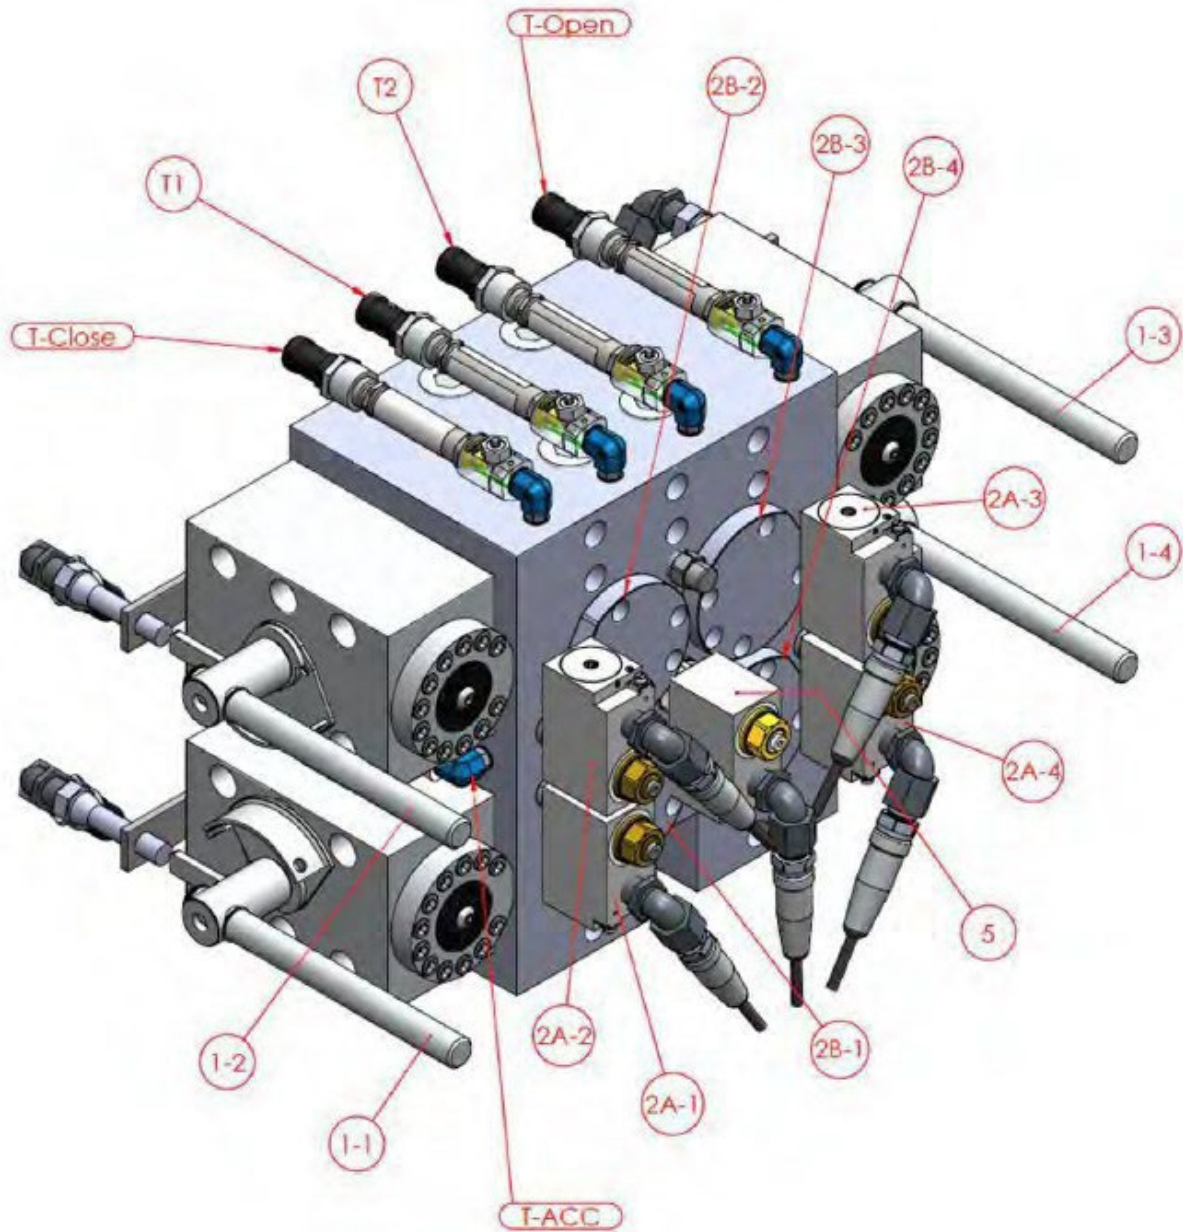
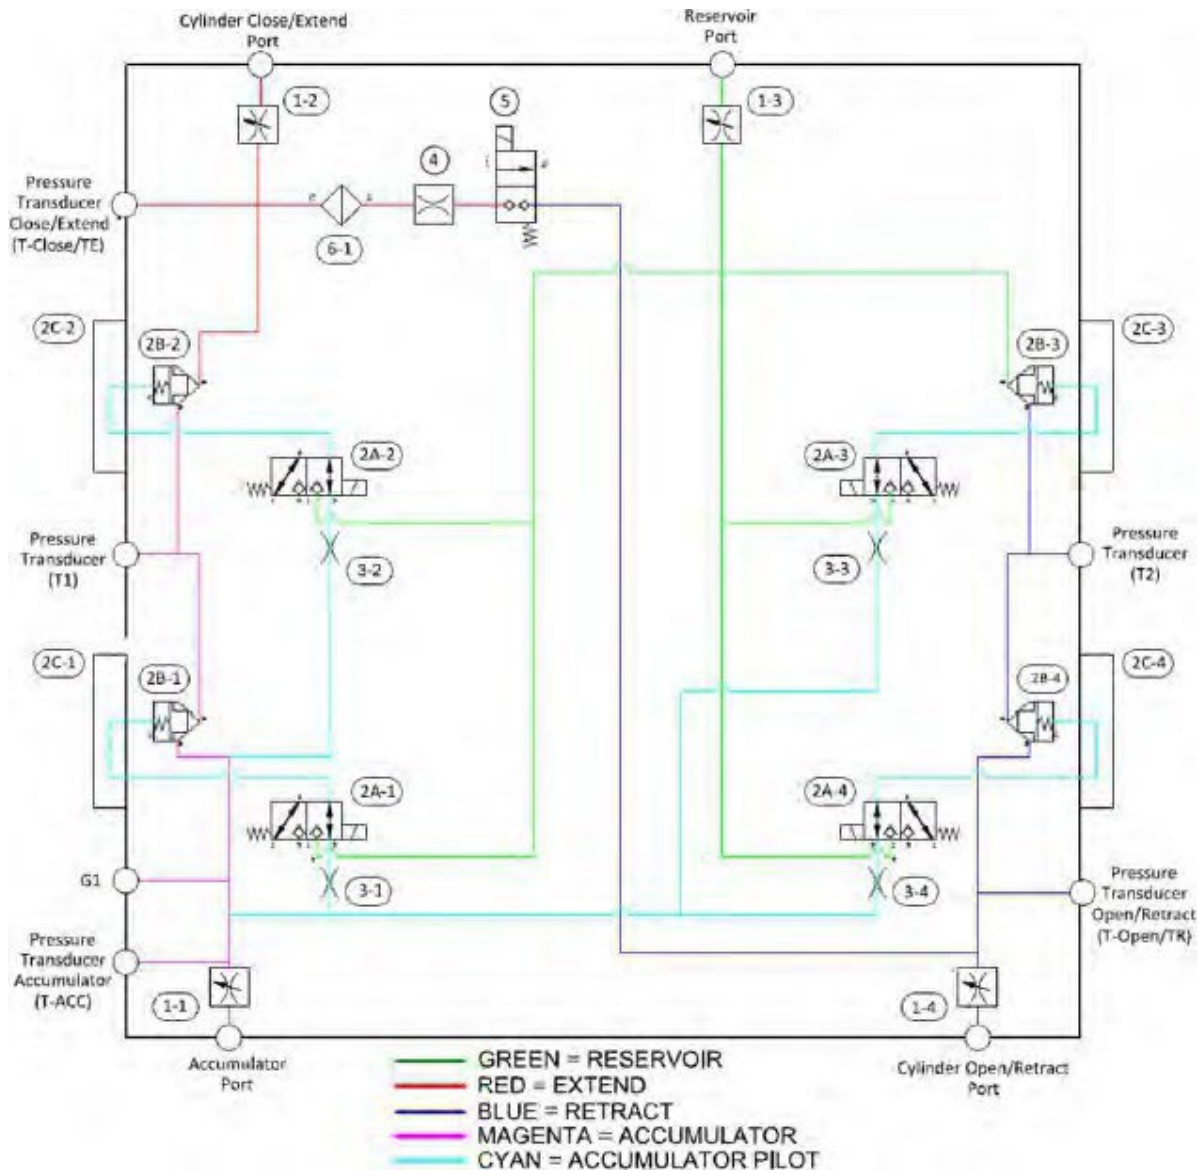

Figure 2: Trip Block Assembly
Figure 3: Trip Block Hydraulic Schematic
The trip block manifold shown in figure 2 is used to control the accumulator trip function and facilitates the online testing of the individual trip valves. Contained in the trip block are four solenoid valves (2A-1, 2A-2, 2A-3 and 2A-4) and four pilot to close check valves (2B-1, 2B-2, 2B-3 and 2B-4) that control the trip function. The combined function of a solenoid valve and its pilot to close check valve will be referred to as the “Trip Valves”. The four trip valves can be online tested to ensure they are operationally ready to perform their trip function on demand. The trip block contains four manual isolation valves (1-1, 1-2, 1-3 and 1-4) to isolate the manifold during trip valve testing. These isolation valves also facilitate the ability to isolate and replace any of the trip valves while the actuator is still able to position in remote mode. Five pressure transducers (T-Open, T-Close, T-ACC, T1 and T2) are mounted on the trip block manifold and are used to monitor thrust of the actuator (T-Close/TE and T-Open/TR), accumulator pressure (T-ACC) and internal manifold pressure (T1 and T2) to facilitate the online testing of the trip valves.
[Refer to Figures 2 and 3 on next pages]
4. Upon successful completion of the API Test sequence the mode will change back to AUTO or LOCAL and report an API Pass in the display for ~2 minutes. If a failure occurs the corresponding test failure will be displayed. See Automated test sequence reference below and Appendix F for failure details. The automated testing sequence provided for reference below. Valve identification numbers are shown in Figure 2 and Figure 3.